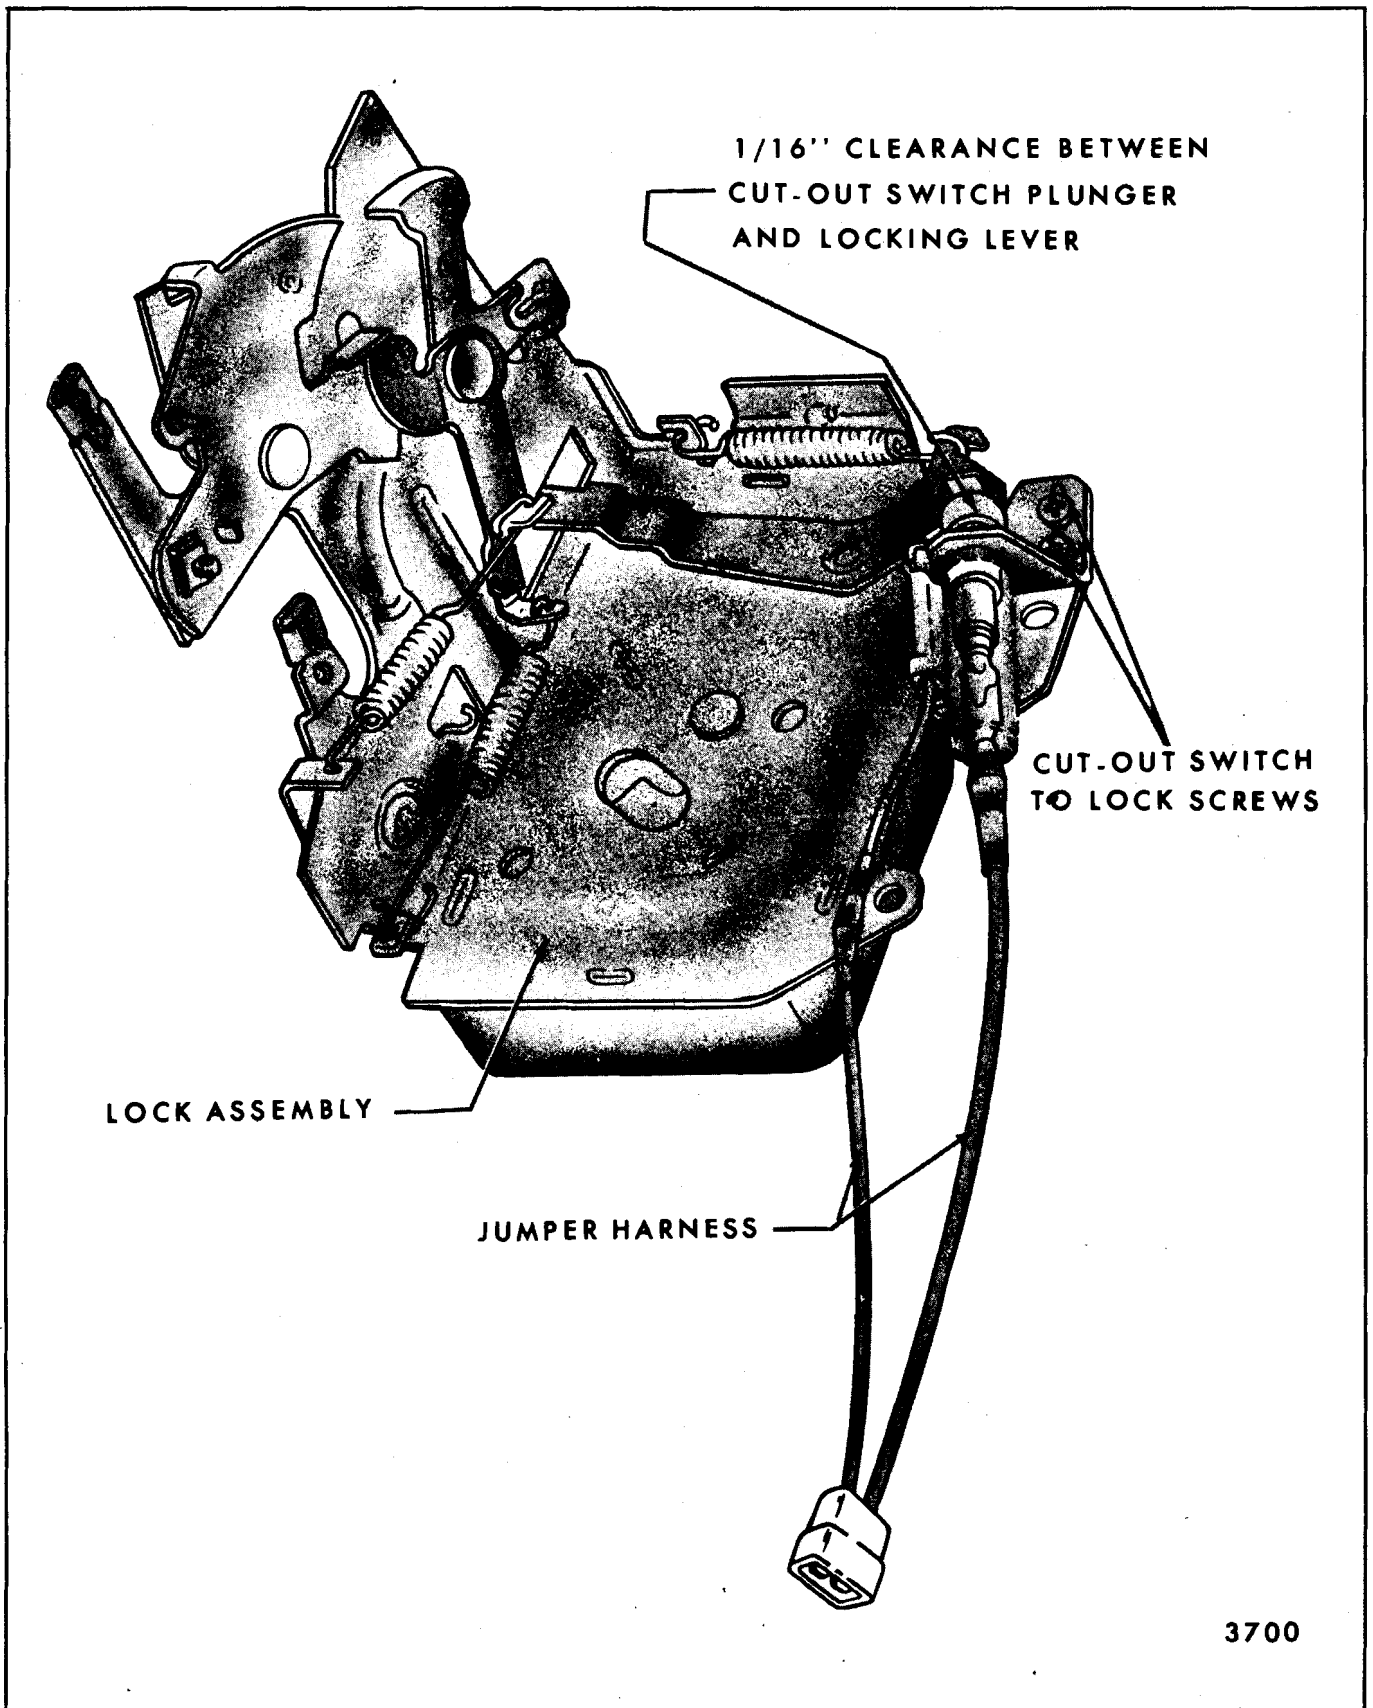

Fig. 9-38-Tail Gate Electrical Cut-Out Switch
3. Remove screws securing switch to right upper lock as shown in Figure 9-38. Disconnect electrical connector and remove switch through access hole.
switch to achieve a 1/16" clearance between the cut-out switch plunger and the locking lever (See Figure 9-38).
5. On electric styles, disconnect tail gate cut-out switch (Figure 9-38) and remove lock assembly through access hole.